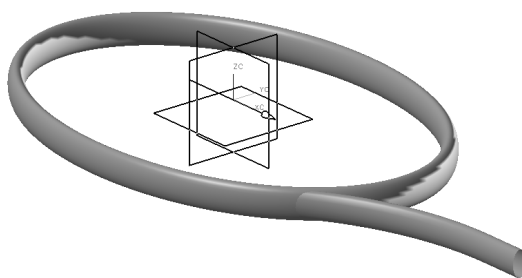

Figure 11-110 The resulting sweep surface created
7. Select the guide curve and choose the **OK** button; the resulting sweep surface is created, as shown in Figure 11-110.